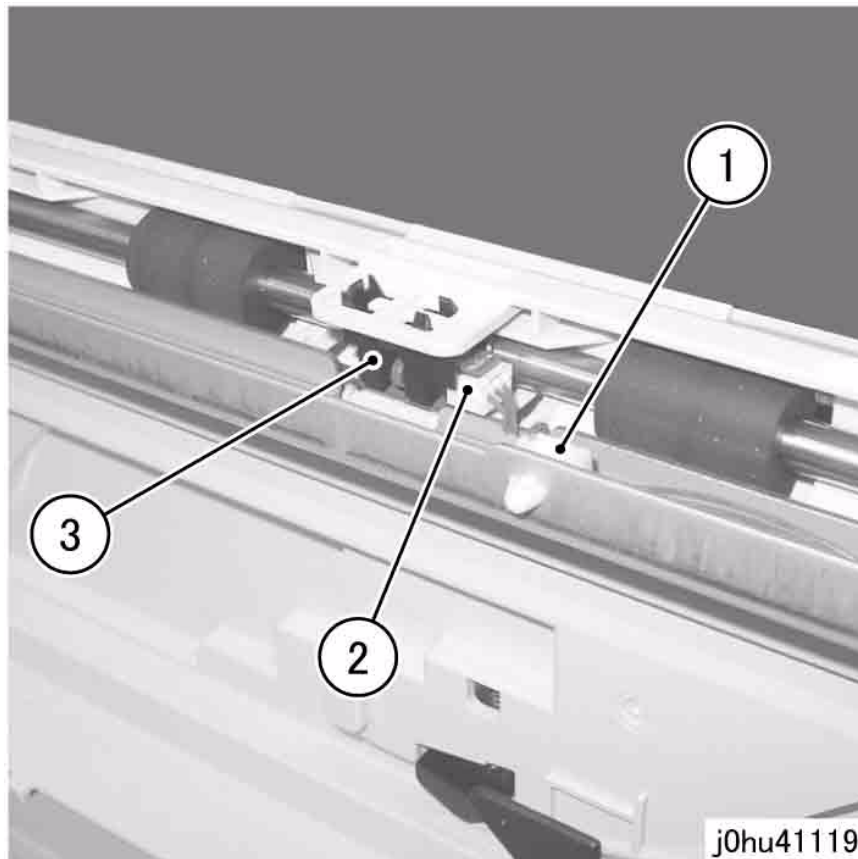

Figure 1 Remove Tray 2 Feed Sensor
4. Remove the Tray 2 Feed Sensor (Figure 1).